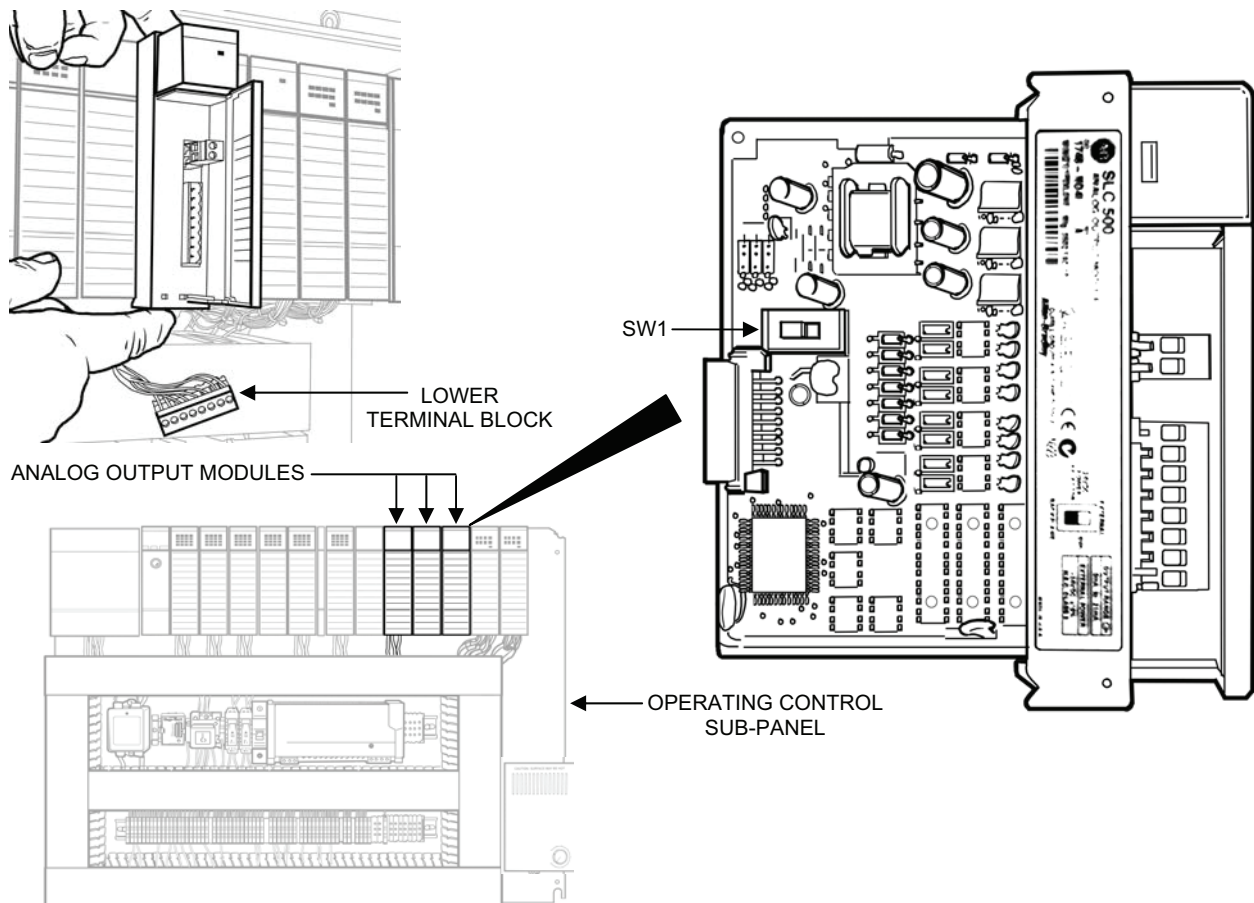

Figure 5. Analog Output Module Replacement.
3. Remove an analog output module as follows (see Figure 5):